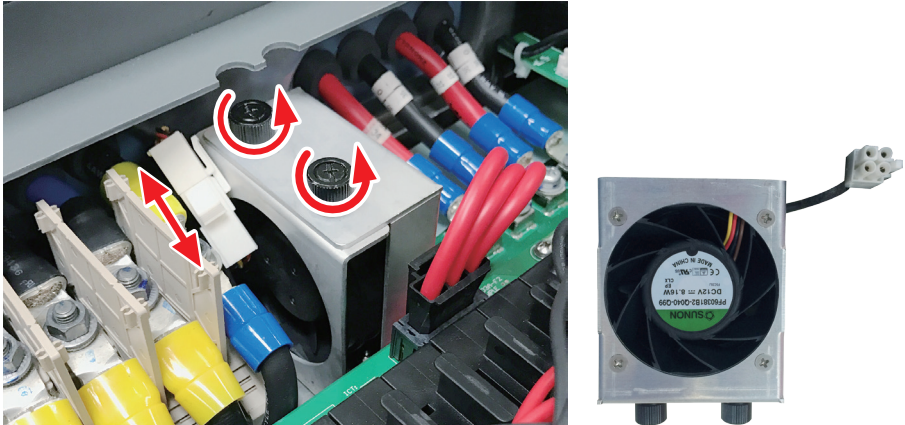

Figure 5-8 : Disassembling fan inside the wiring box compartment (M88H_122 only)
1. Wiring Box compartment (WB): User should disassemble the top 2 pcs screws (2 Black ones as shown in **Figure 5-8**) outside the fan cabinet and disconnect the connector (white one as shown in **Figure 5-8**) right in front of the fan cover. Then replace new fan and reassemble the 2 pcs screws and plug in the connector.